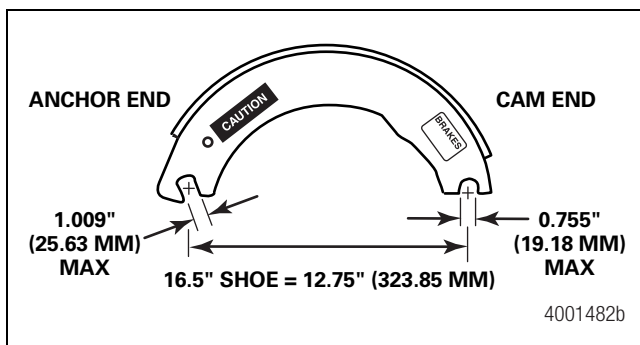

Figure 3.6
8. With the roller and anchor pin installed, measure the distance from the center of the anchor pin slot to the center of the roller slot. Figure 3.6. The distance must not exceed 12.75-inches (323.85 mm). Replace any brake shoes that do not meet measurement specifications.